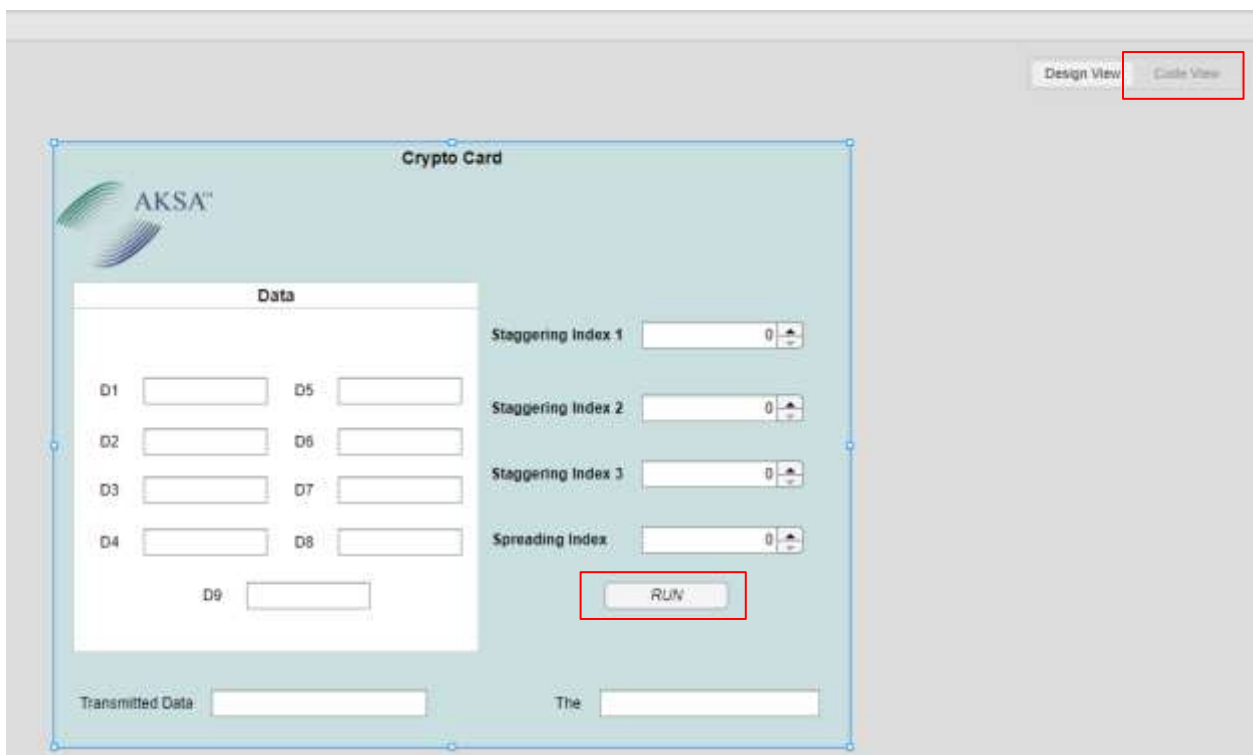

Figure 16: Design and Code View Option
1. One the Designer Click on the Code View as highlighted in the Figure 16.